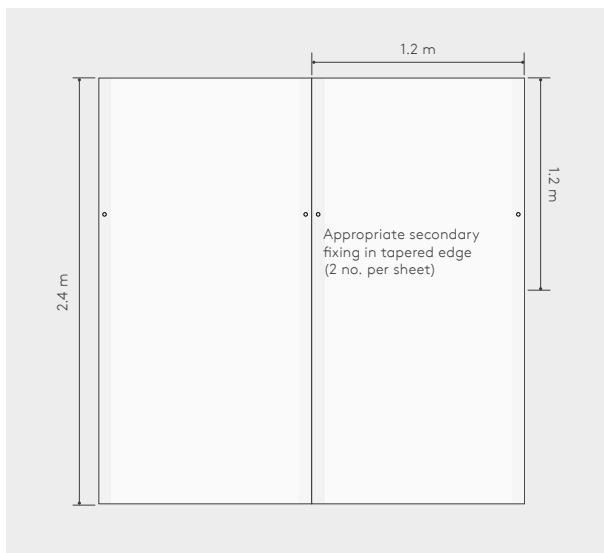

Figure 7: Appropriate secondary fixing pattern for acrylic sealant / PU foam adhesive bonding
**Figure 6: Appropriate secondary fixing pattern for drywall adhesive dab bonding using 6 additional fixings (see Figure 7 for the appropriate secondary fixing pattern when using 2 additional fixings)**
- These are normally applied at a rate of 2 no. per sheet, 15 mm in from the edge of the sheet, after the adhesive has set (see Figure 7).